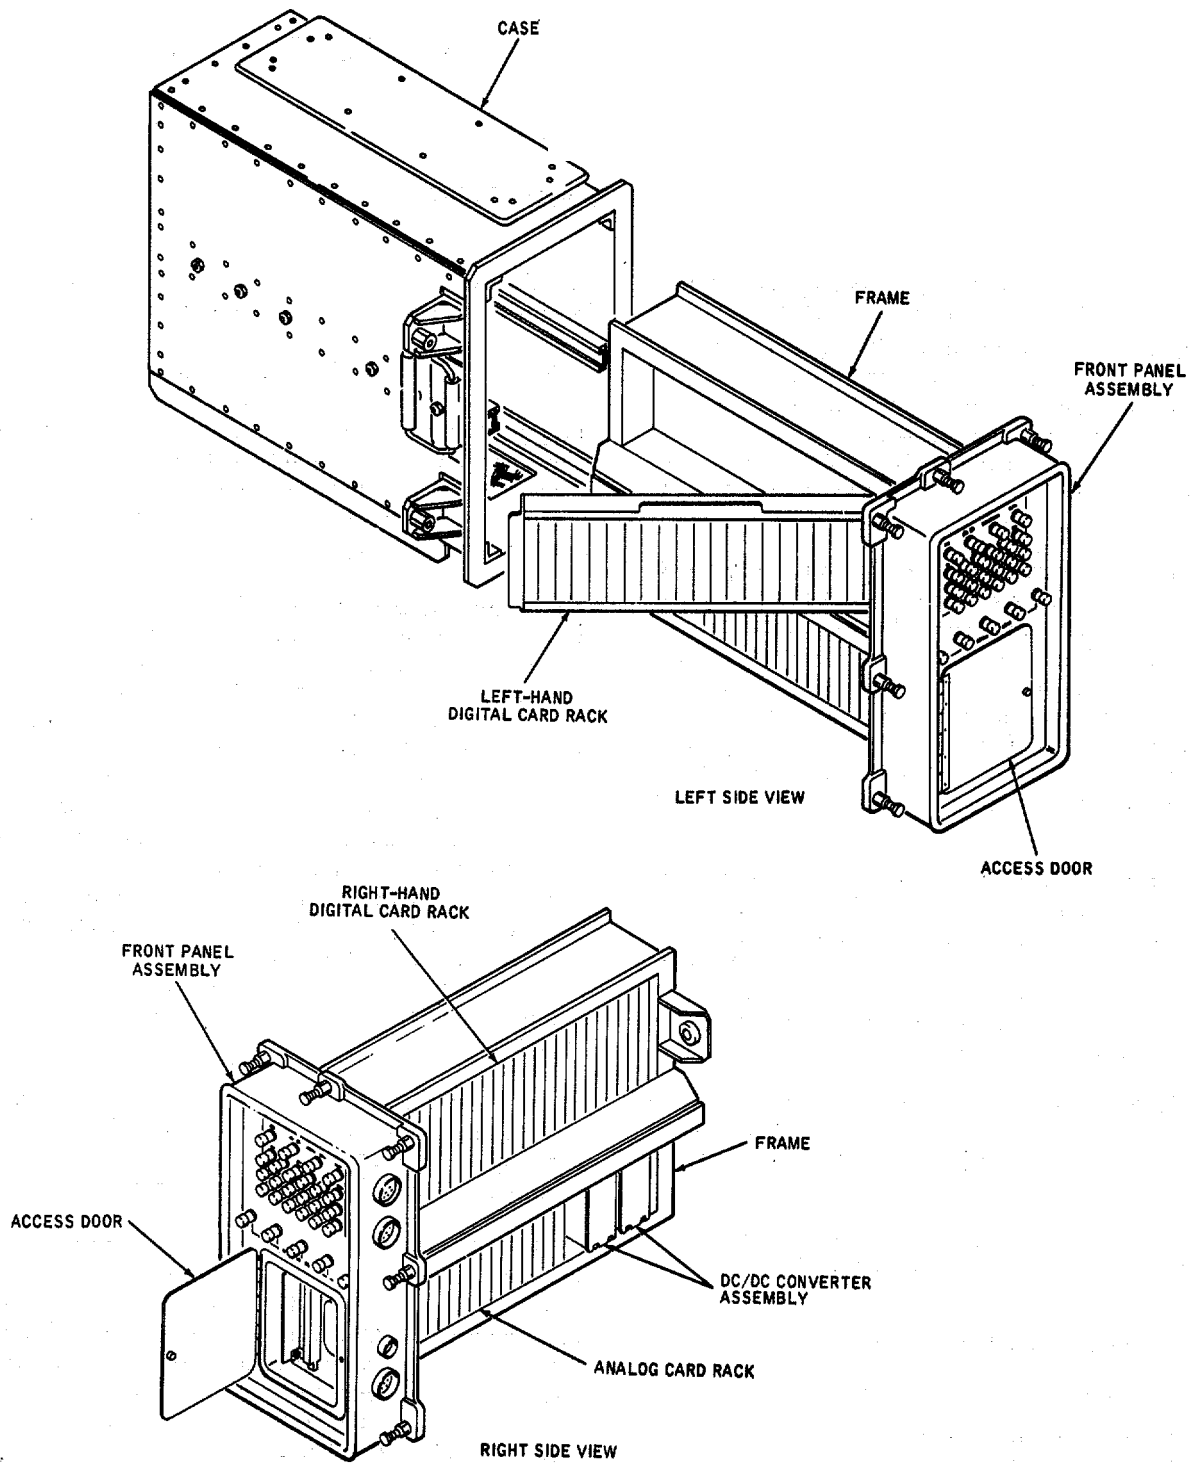

Figure 7-1. Module Test Set Major Assemblies
**7-4. Physical Description.** The MTS (fig. 7-1) is a portable case-mounted assembly normally mounted in the maintenance bench. Accessories and adapters supplied with the MTS are stored in the maintenance bench and are shown in figure 7-2. The MTS includes two digital card racks, one analog card rack mounted in a frame attached to a front panel assembly, and two dc/dc converter assemblies. The chassis, which includes the card racks, frame, and front panel assembly, is contained in a case assembly. Refer to TM 9-1430-655-20-1 for cabling diagrams depicting the MTS installation. Refer to table 7-1 for a cross-reference of part numbers and drawing numbers for major system equipment in reference-designator order. Refer to table 7-2 for a detailed cross-reference of major MTS assemblies and components.